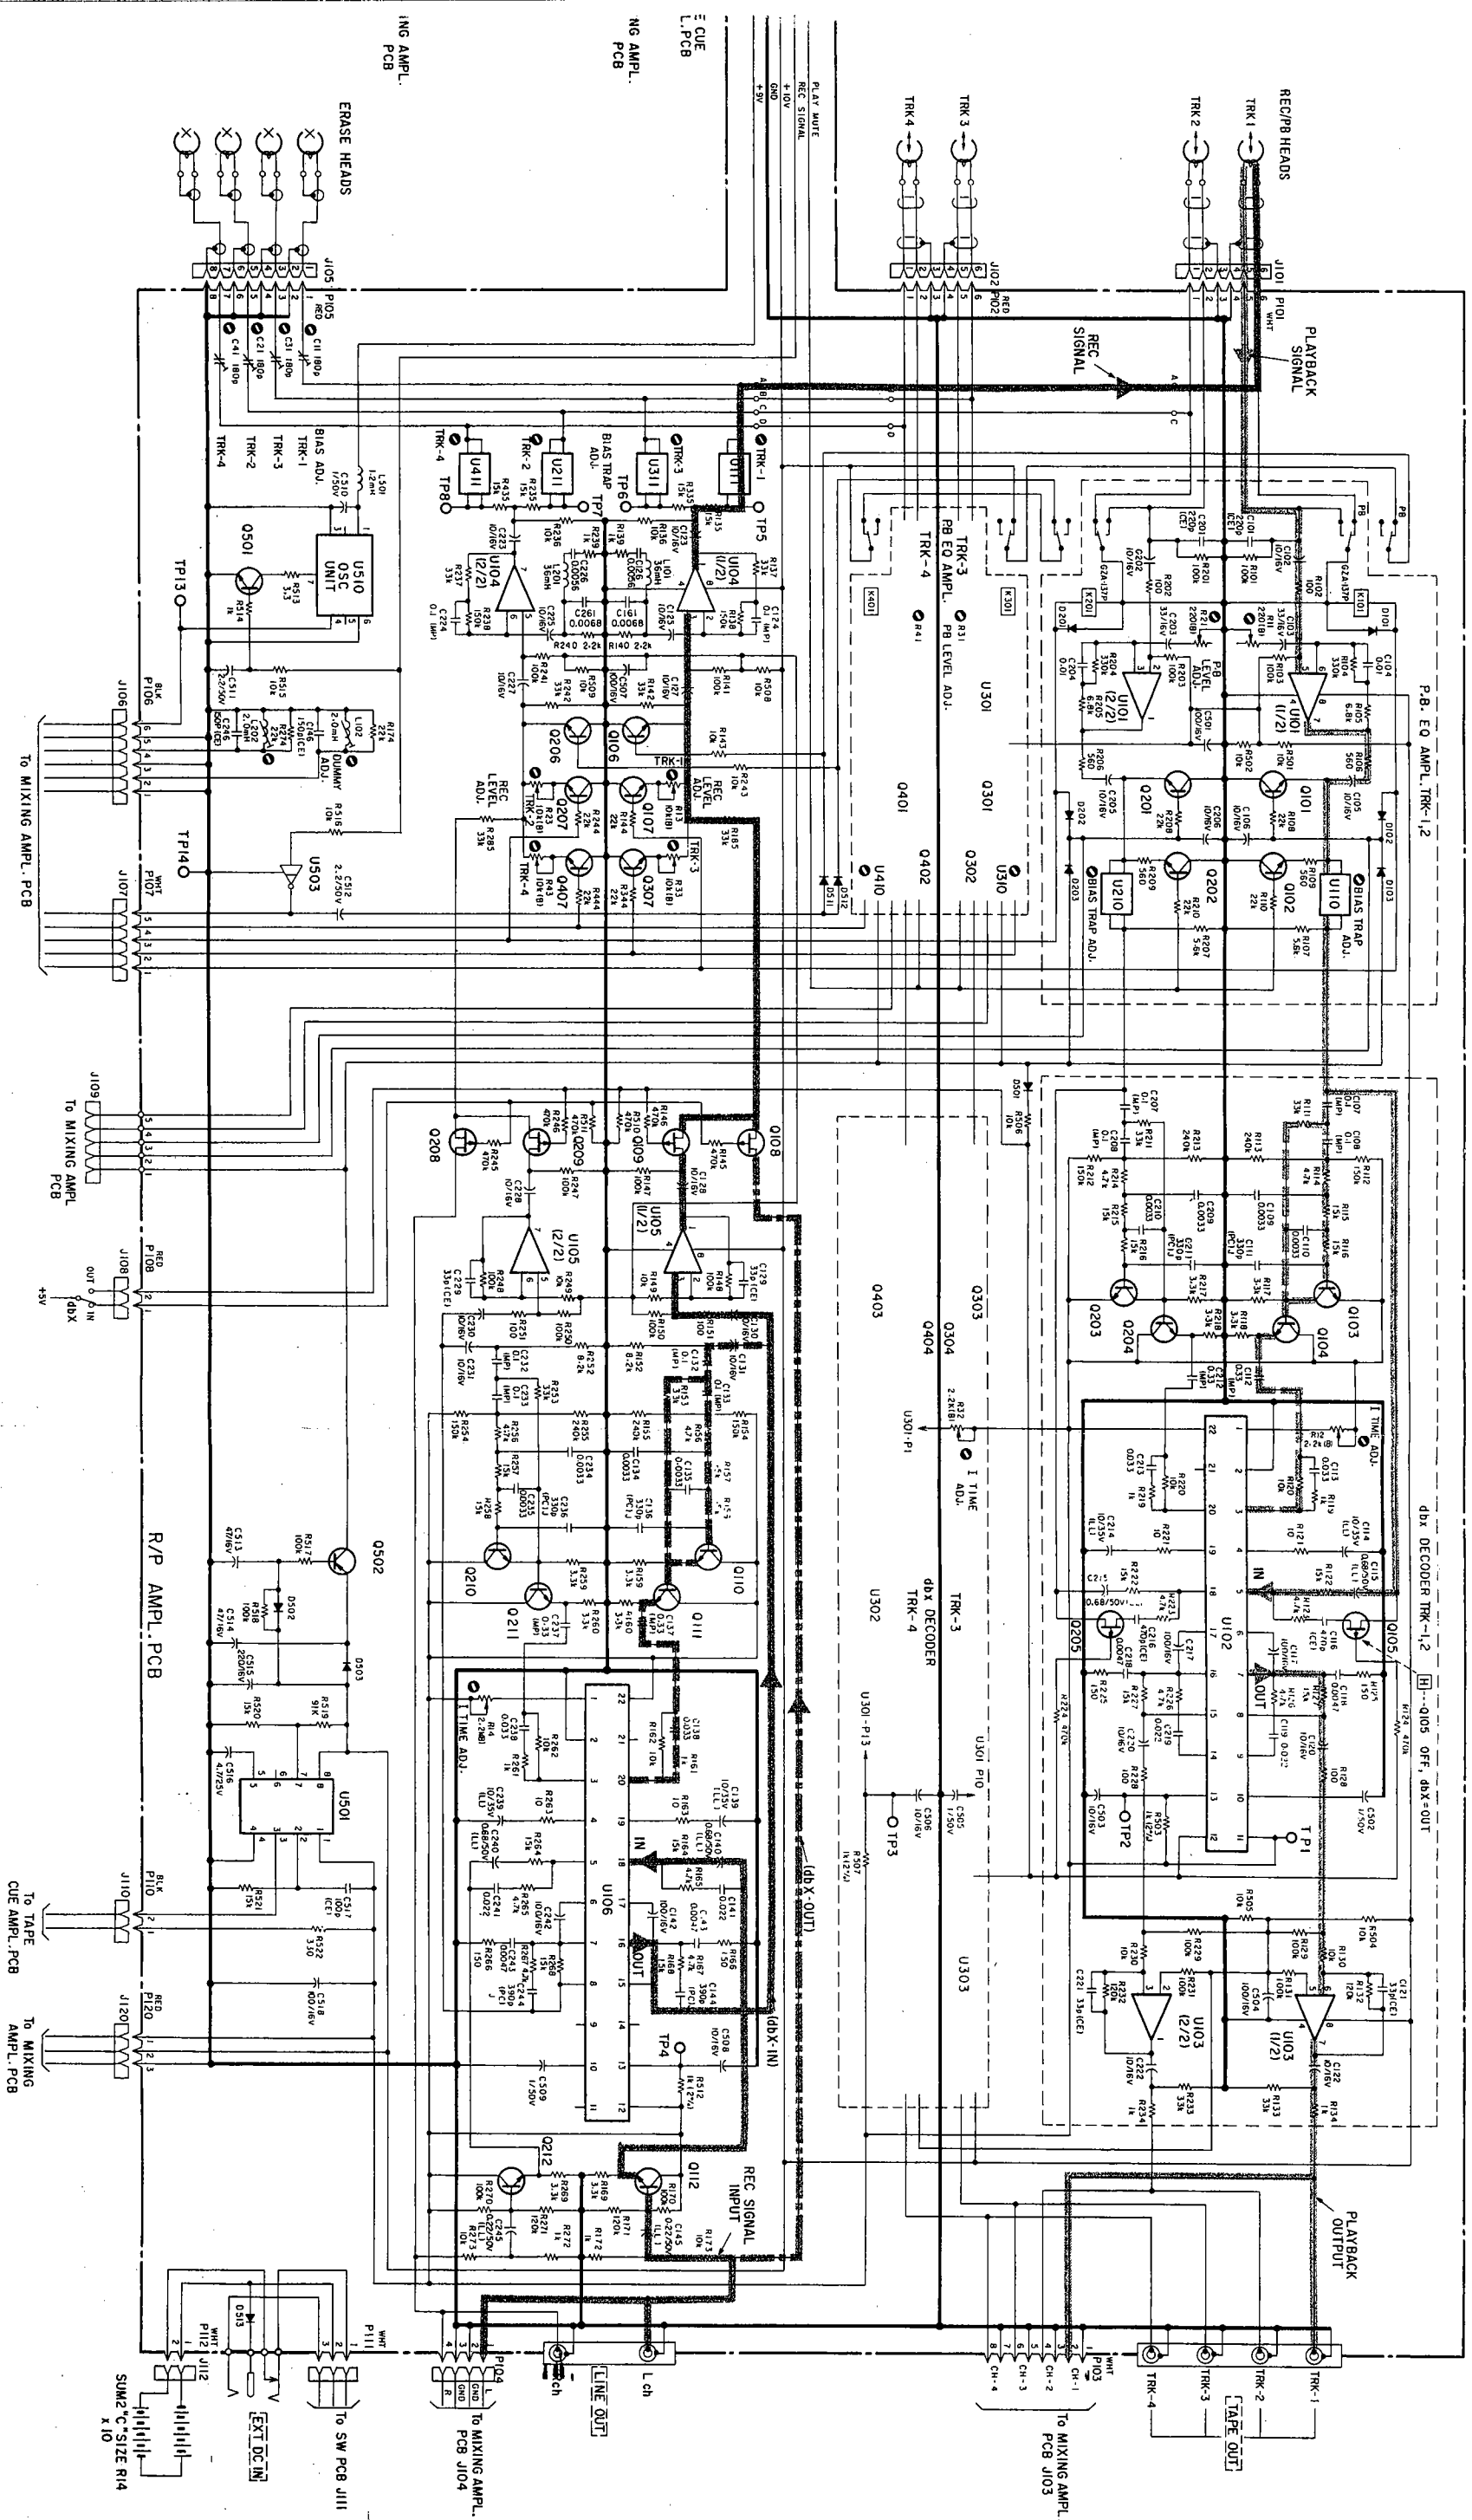

Fig. 3-6 Record & playback circuit
1. Record signals will flow as shown by the line — (dbx IN) and the --- line (dbx OUT) in Fig. 3-6.